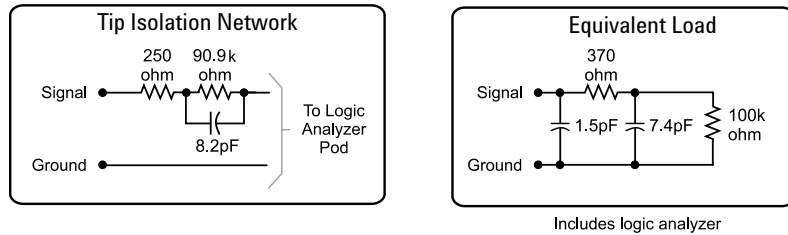

Figure 11. Probe tip isolation network and equivalent load
The standard probing system consists of IC clips, probe leads, probe housing and probe cable. Because it is passive, the standard probing system is smaller, lighter, and much easier to use than active probing systems. This passive probing system is similar to a probing system used on a high frequency oscilloscope. It consists of an isolation network (as shown in Figure 11) at the probe tip and a shielded resistive transmission line. The advantages of this system are:
- High input impedance. See Figure 11.